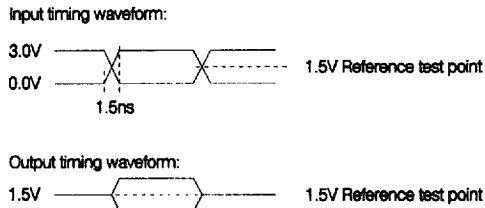

Fig. 1 TIMING SPECIFICATIONS
9. All output timings are referenced to 1.5V and all input timings are referenced to 1.5V, unless otherwise specified. Inputs must be driven to the appropriate voltage levels indicated by the corresponding timing diagrams when A.C. specifications are measured, as shown in Figure 1.